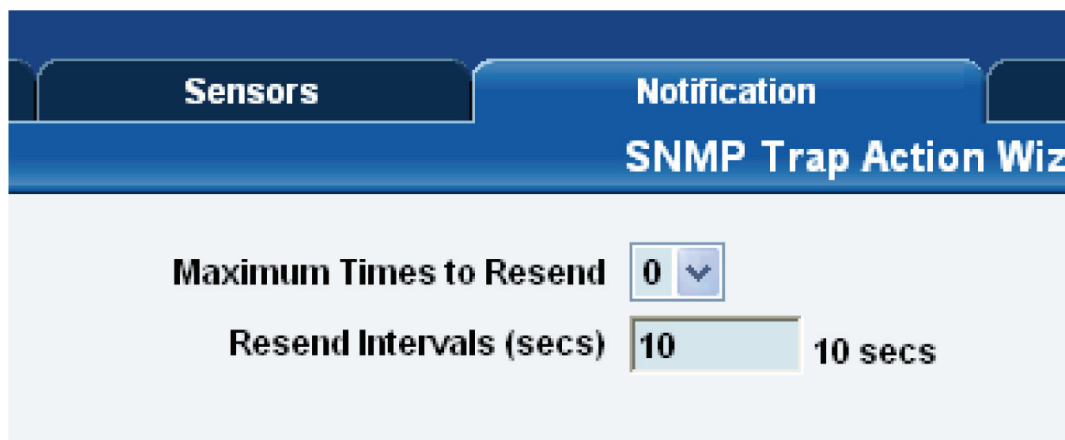

Figure 4-4. SNMP Trap Notification screen.
7. Input another trap or click the “Next” button. The screen shown in Figure 4-4 appears.